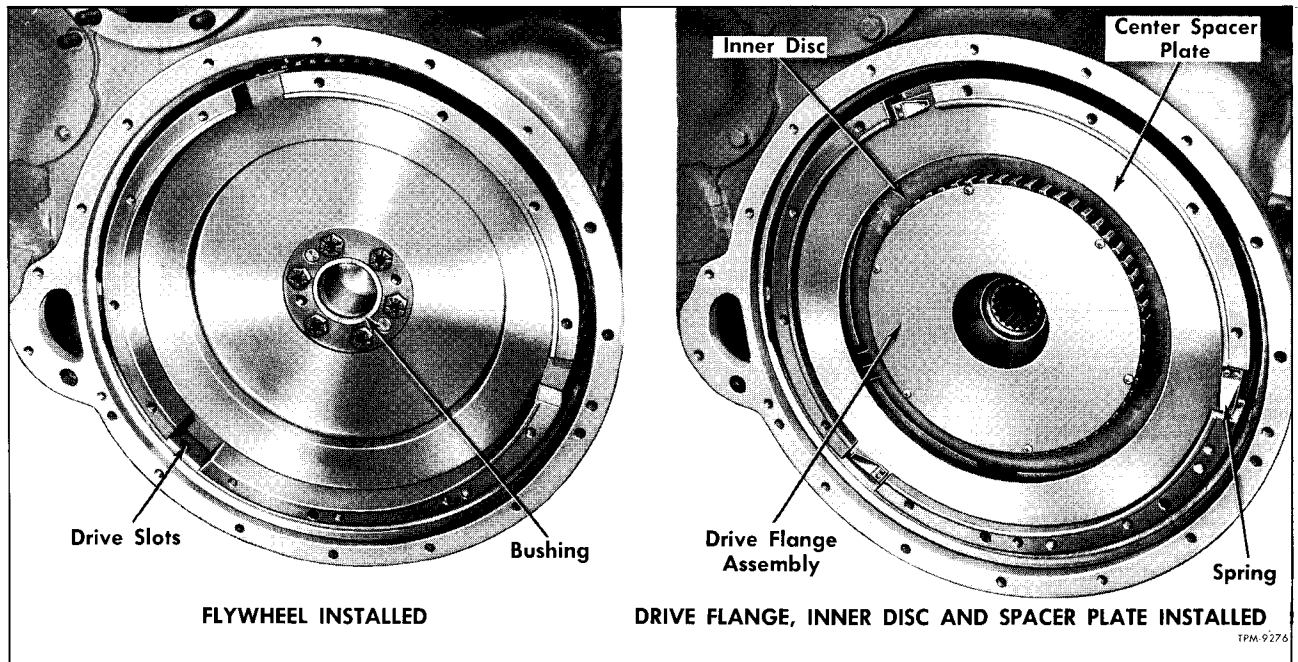

Figure 4—Flywheel and Clutch Installation Views
1. Install drive flange with hub in flywheel bushing (fig. 4), then place inner disc on drive flange.
2. Place center spacer plate against inner disc as shown in figure 4.